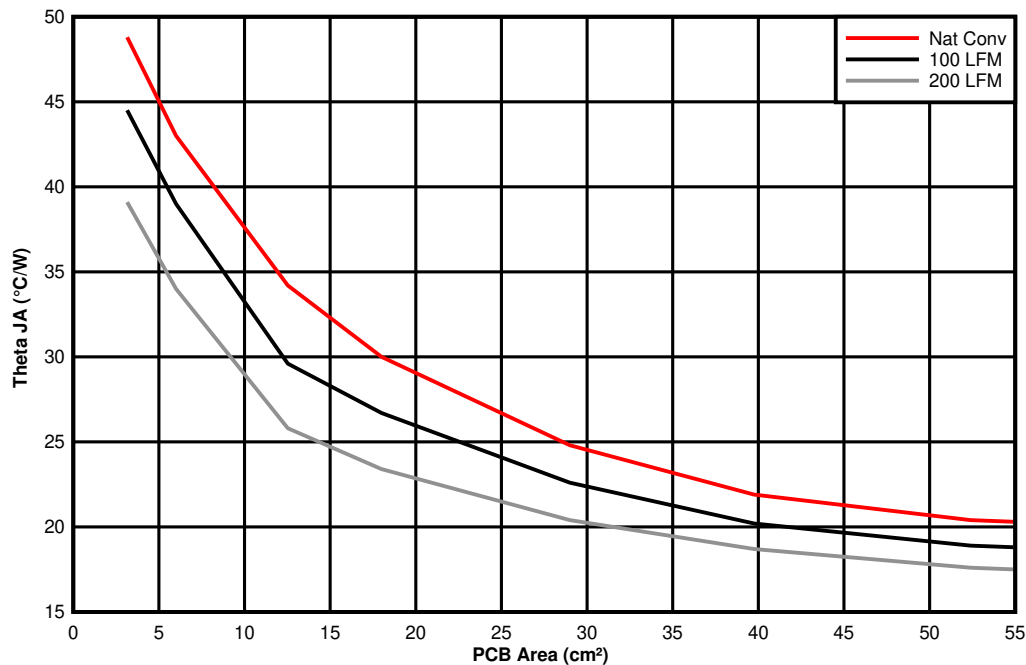

图 10-5.  $\theta_{JA}$  vs PCB Area
The amount of PCB copper as well as airflow effects the thermal performance of the device. 图 10-5 shows the effects of copper area and airflow on the junction-to-ambient thermal resistance ( $R_{\theta JA}$ ) of the TPSM560R6. The junction-to-ambient thermal resistance versus PCB area is plotted for a 4-layer PCB.
3. Reference 图 10-5 to determine the minimum required PCB area for the application conditions.